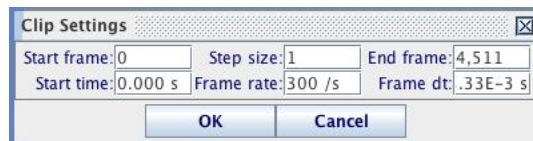

Figure 5: The Clip Settings icon.
4. In the **Clip Settings** pop-up window, enter a frame rate of 300 fps, as shown in Figure 5